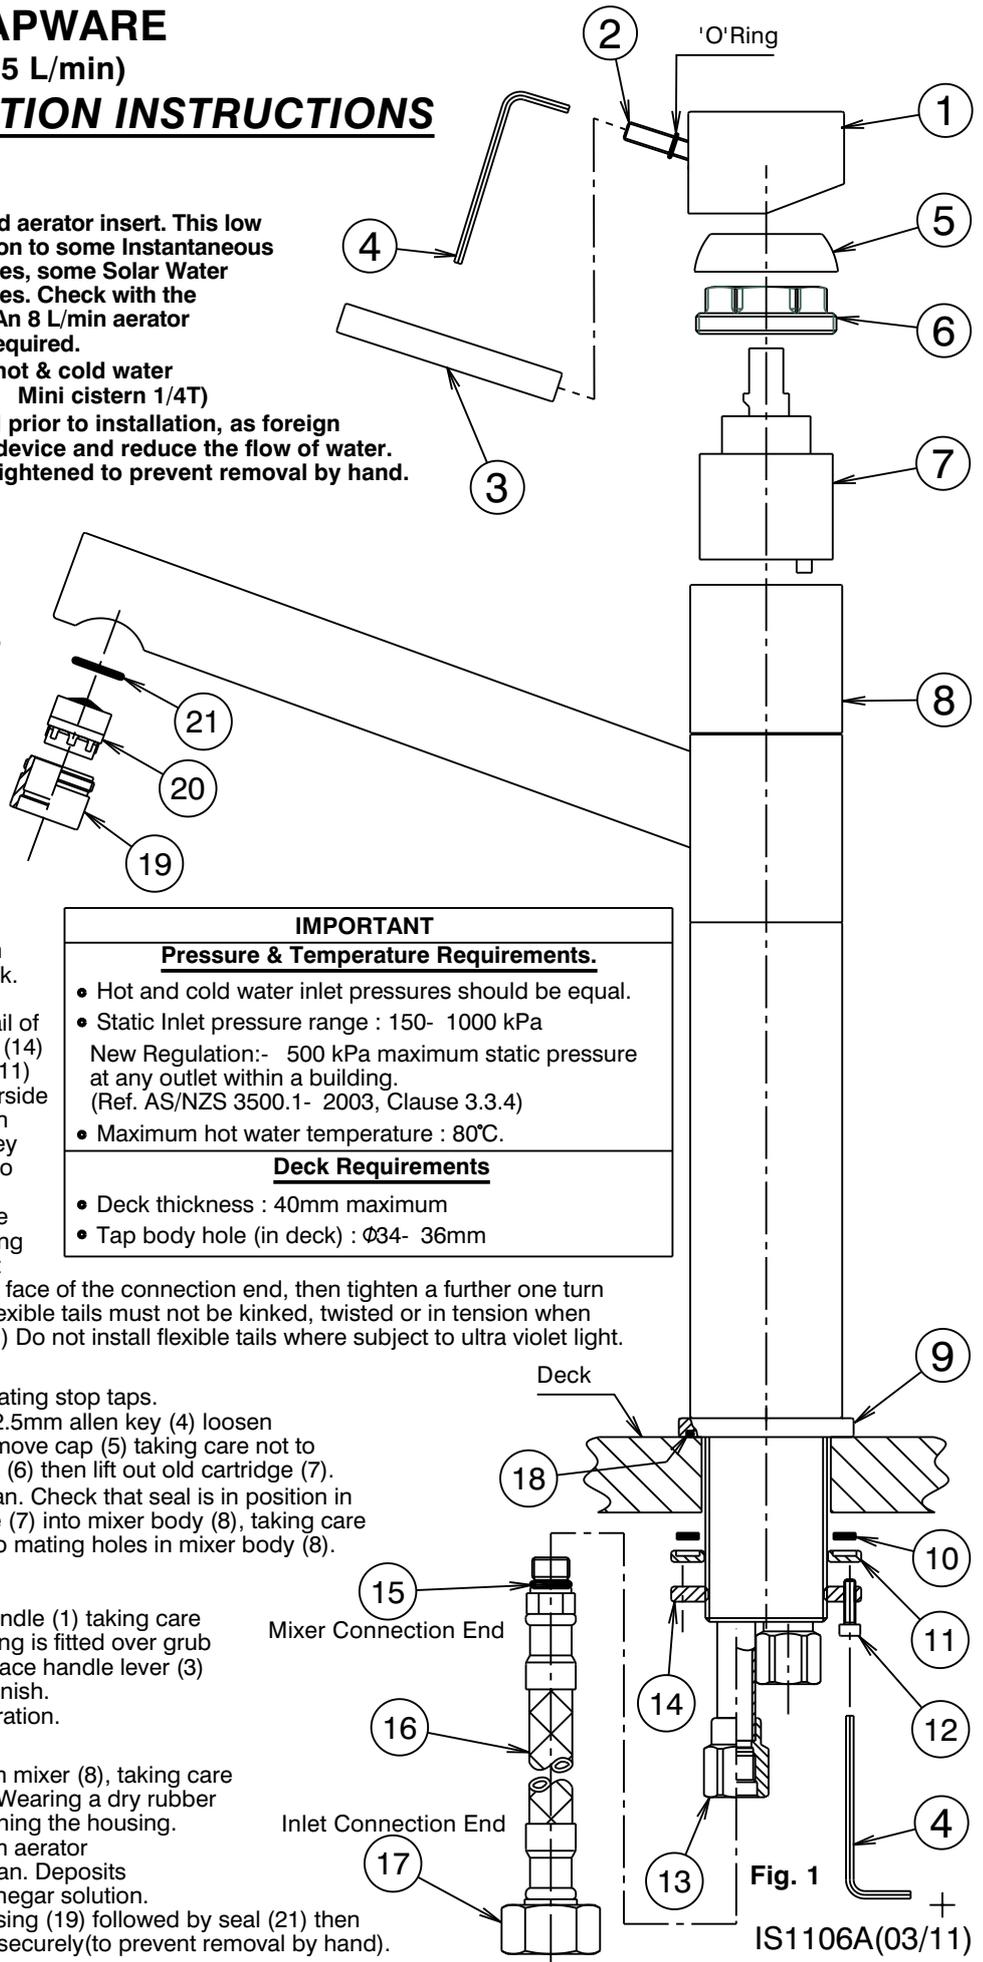

Fig. 1
- 1) Ensure base flange (9) is screwed onto threaded tail up against base of mixer (8). From fixing pack fit base seal (18) into groove in base flange of mixer (9). Assemble screws (12) into clamp ring (14), the threaded end of each screw should be just protruding from the clamp ring. Fit flat seal (10) into groove in washer (11). Fit flexible tail (16) into inlet fitting (13) marked with a Red Dot. Hand tighten the tail, ensuring the 'O' ring (15) has fully entered thesealing bore to provide a watertight joint. Fit other flexible tail (with blue indication) into remaining fitting in a similar manner.
- 2) **Flexible Tail Mixer Connections:** Apply suitable lubricant to 'O' rings (15). Fit flexible tail (16) (with red indication) into inlet fitting (13) marked with a Red Dot. Hand tighten the tail, ensuring the 'O' ring (15) has fully entered thesealing bore to provide a watertight joint. Fit other flexible tail (with blue indication) into remaining fitting in a similar manner.
- 3) Insert the inlet connection end (17) of each flexible tail (16) through the hole in the deck. Place mixer over deck hole, fit washer (11) together with flat seal (10) over threaded tail of mixer as shown in Fig.1. Screw clamp ring (14) onto threaded tail until it contacts washer (11) & the flat seal (10) has contacted the underside of the deck. Position mixer as required then tighten 3 screws (12) equally using allen key (4) until mixer assembly is clamped firmly to the deck. **DO NOT OVERTIGHTEN.**
- 4) **Flexible Tail Inlet Connections:** Connect the flexible tails (16) to the hot and cold isolating stop taps, hand tighten the connecting nut (17) until rubber cone contacts the sealing face of the connection end, then tighten a further one turn to provide a watertight joint. **Important:** Flexible tails must not be kinked, twisted or in tension when installed. (Minimum Bend Radius:- 50mm) Do not install flexible tails where subject to ultra violet light.